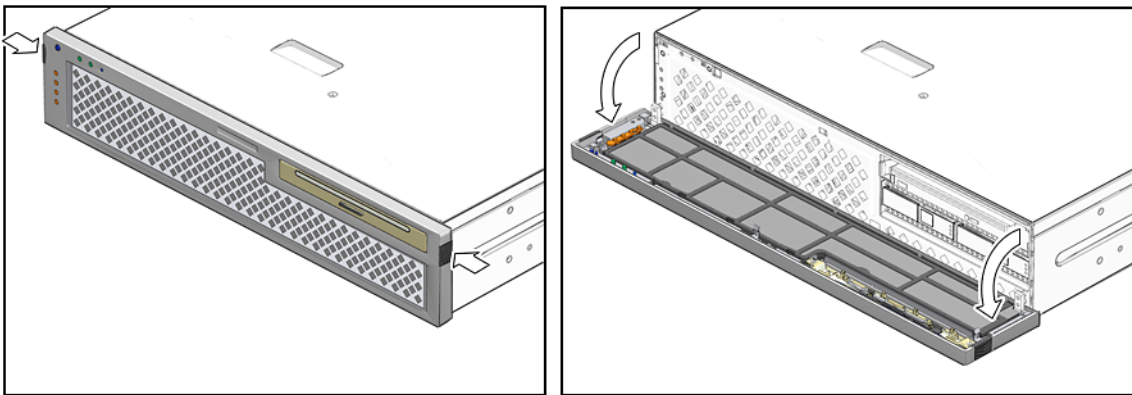

FIGURE 3-12 Opening the Bezel
1. After you remove the top cover, open the bezel. Press the green tabs on either side of the bezel and pull the bezel forward and down (FIGURE 3-12).